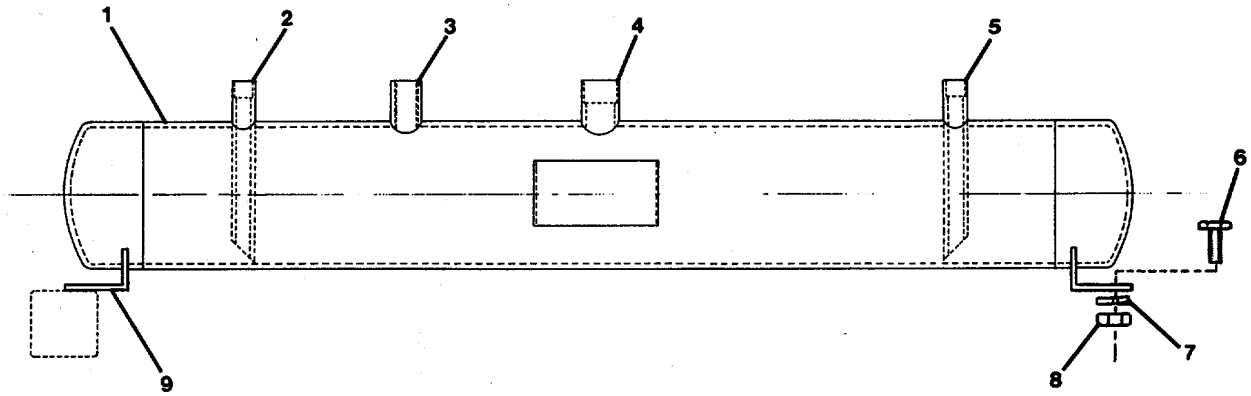

Figure 4-14 . Liquid Refrigerant Receiver .
- a. Mount blower (3) to air conditioner assembly with screws (4).
- b. Attach blower (3) to coil section with capscrews (15) and washers (14).
- c. Install blower section cover (2) with screws (1).
- d. Connect ducting to blower outlet (7).
**4-17. Replace Liquid Refrigerant Receiver. (FIGURE 4-14)**